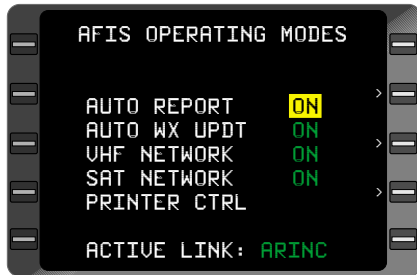

Figure 7-80
4. Line Select Key - DEPRESS to position cursor over **ON** option of **AUTO REPORT** or **AUTO WX UPDATE** field. (Figure 7-80)